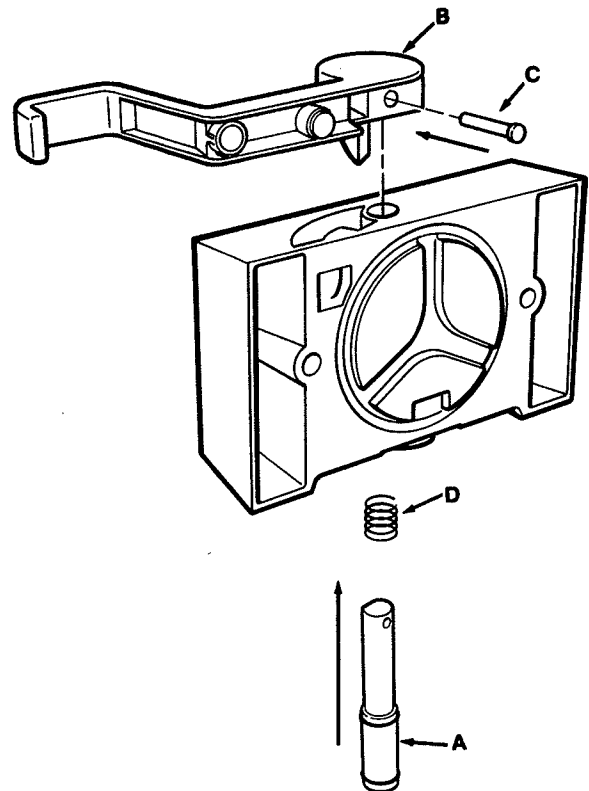

Figure 39. Front Door Assembly
Place handle (B) on spigot. Line up hole in spigot with hole in handle and install pin (C). (See Fig. 39.)